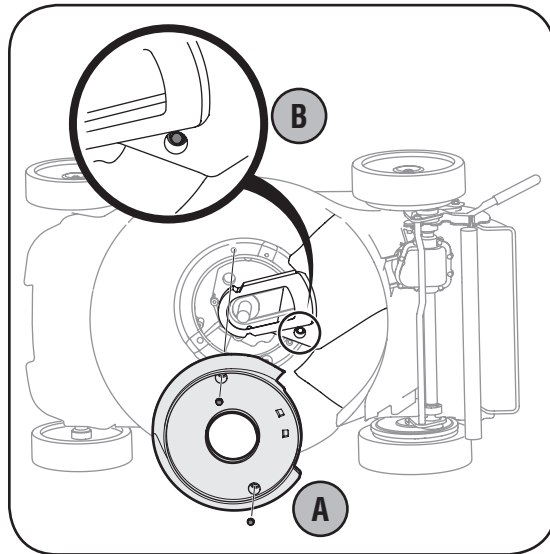

Figure 5-4: A. Remove the screws that hold the engine baffle onto the deck. B. Loosen the screw that holds deck baffle onto deck.
5. a. Remove the self-tapping screws that secures the engine baffle to the deck. See Figure 5-4. Remove engine baffle.
- b. Loosen self-tapping screw that secures deck baffle to the deck. See Figure 5-4.